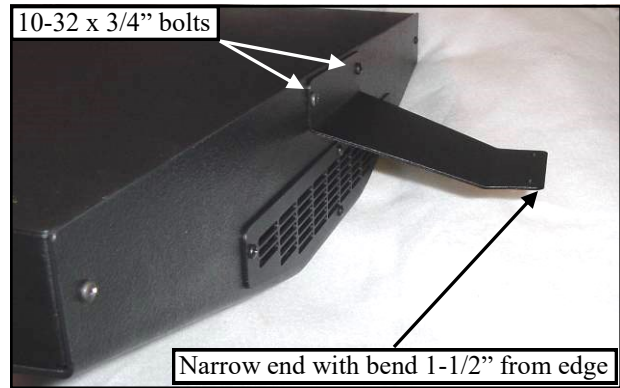

Figure 3.1 (side view of heater unit front)
3.1 Per fig. 3.1, attach the Heater Mount 3 to the front of the heater unit using two 10-32 x 3/4" long Phillips head bolts. Tighten both bolts.